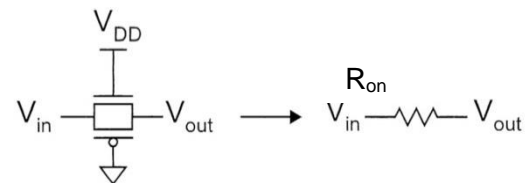

Fig. 6
- A transmission gate as shown in Fig. 6 with $V_{DD} = 1.4V$ and $|V_{tp}| = V_{tn} = 0.5V$. (5%)